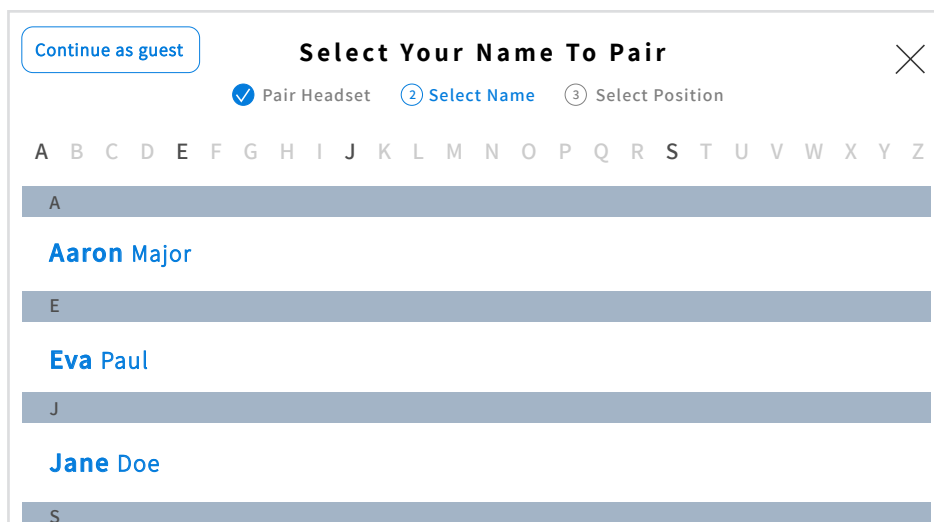

Fig. 1.23
- \*\*\* The group you are calling must be an active position in the restaurant and have headset wearers enrolled in that group (see example in Fig. 1.23, which has three active positions listed: Drive-Th-
If there is an existing Crew Profile, then the **Select Your Name To Pair** dialog opens (see Fig. 1.23). Tap on your name if it already exists (names are listed in alphabetical order, so you may have to scroll down the list to find it), or tap on the **Continue as guest** option in the upper left corner if you don't have a profile.